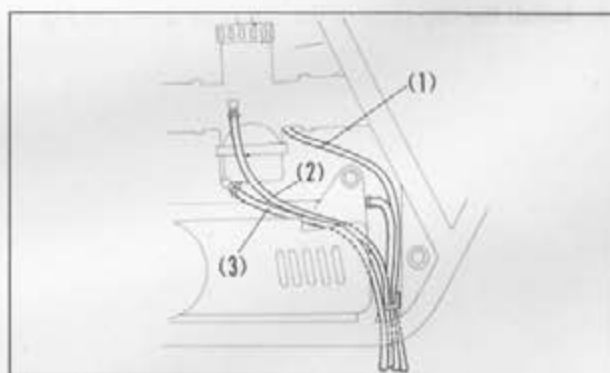

Fig. 3-88 (1) Right carburetor breather tube
(2) Lug located on carburetor side
9. Route the tubes as shown in Fig. 3-88.